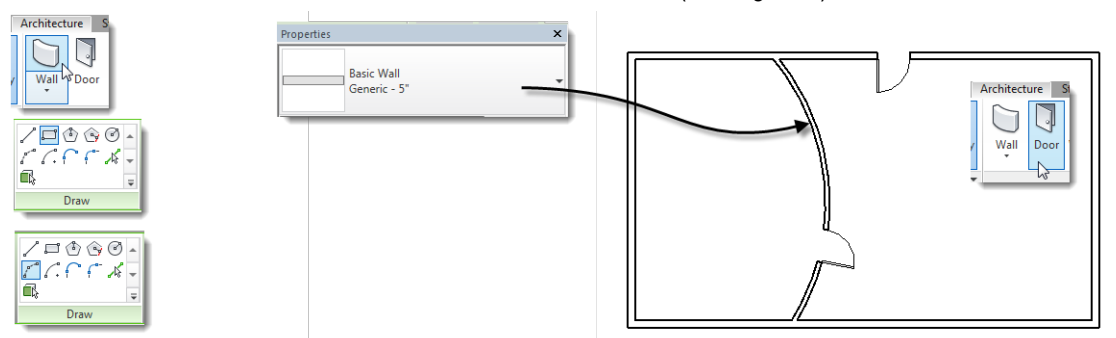

Figure 3 – Create some walls and doors
5. Click the Door tool next and add a few doors (see Figure 3).